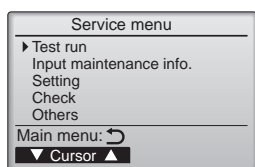

Fig. 7-3
- ③ Select "Test run" with the [F1] or [F2] button, and press the button. (Fig. 7-3)